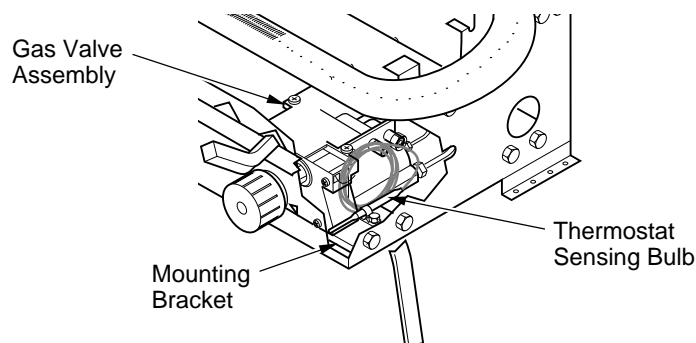

Figure 33 - Location of Gas Valve Assembly and Thermostat Sensing Bulb
1. Remove logs. Locate the gas valve assembly and thermostat sensing bulb (see Figure 33).